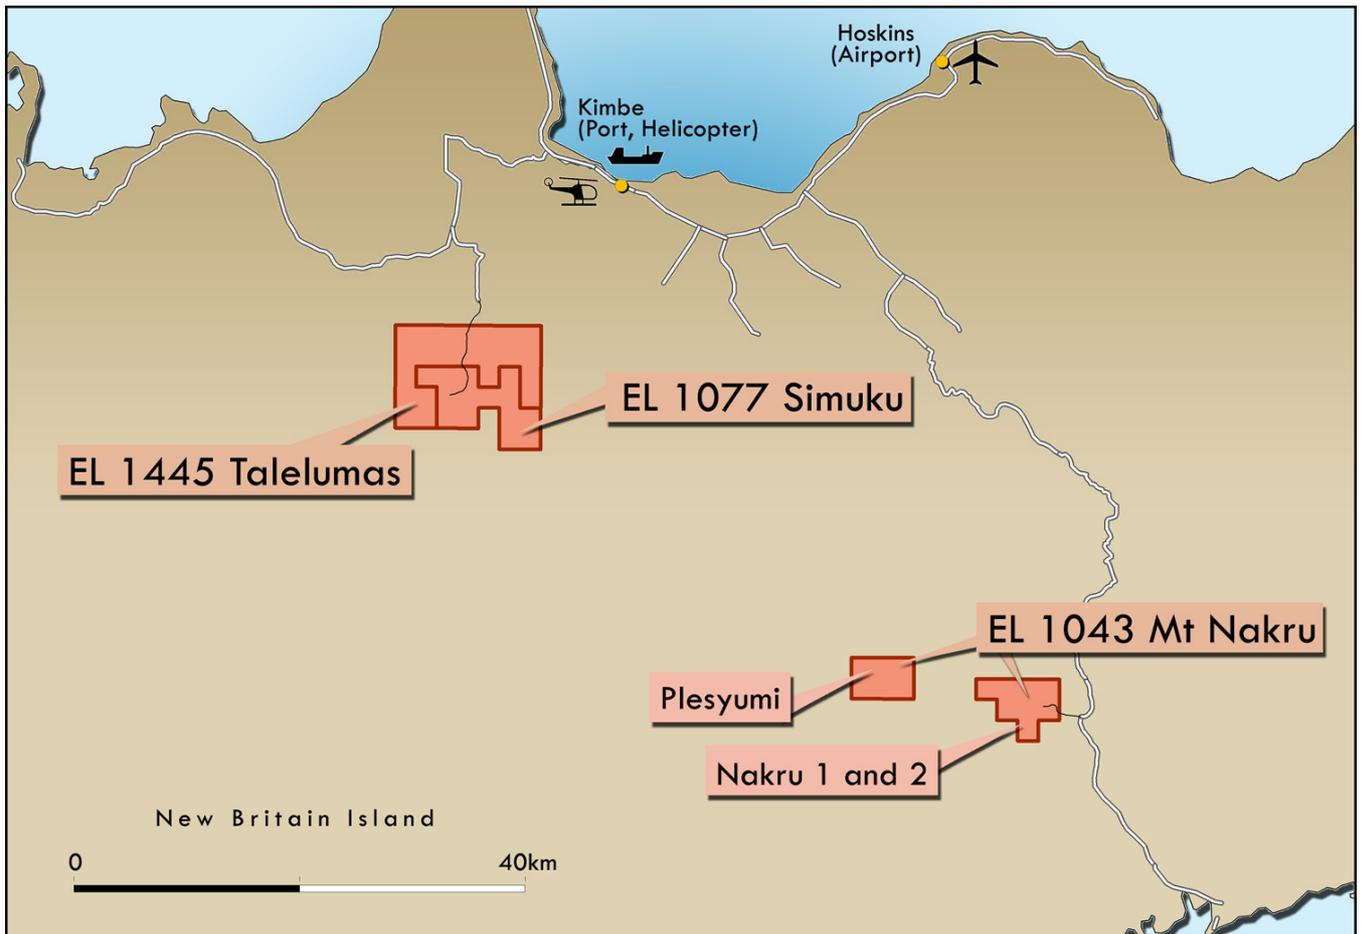

FIGURE 1
The Mt Nakru project is well located near the town of Kimbe and close to essential infrastructure including roads, an airfield and a deep water port (Figure 1). The Mt Nakru system includes four defined prospects, Nakru 1 to Nakru 4.
1. The tenement EL 1445 (Talelumas) surrounding the northern part of the Simuku tenement (Figure 1) was granted by the Minister of the Mineral Resources Authority, PNG on 29th May, 2008 for a period of two years.